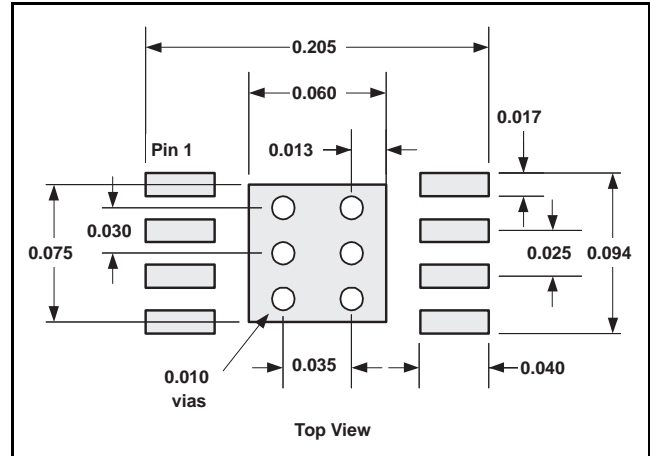

Figure 114. PowerPAD PCB Etch and Via Pattern
1. Prepare the PCB with a top side etch pattern as shown in Figure 114. There should be etch for the leads as well as etch for the thermal pad.